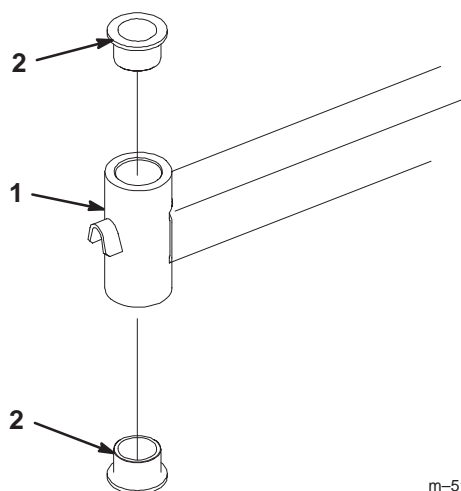

Figure 73
4. Insert a pin punch into the mounting tube and carefully drive out the bushings (Fig. 73). Clean the inside of the mounting tube.